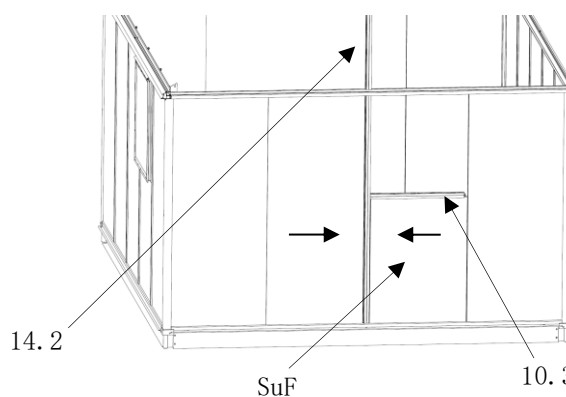

fig. 142
- then the glazing is pushed in the direction of the central-gable-glazing-bars (item 14.2).
- the crossbar (item 10.3) is placed on the small glazing pane (item SuF) and also pushed in the direction of the central-gable-glazing-bar (item 14.2). (fig. 142)